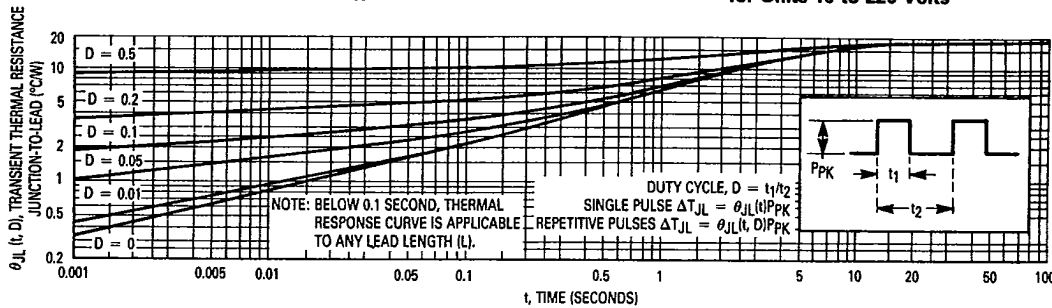
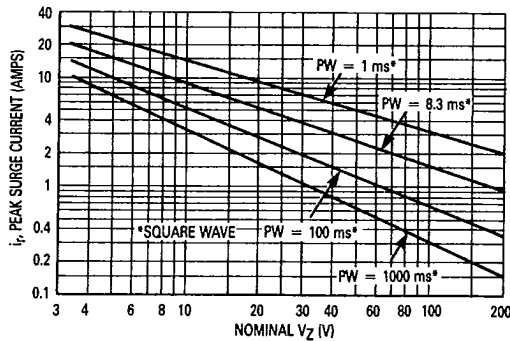
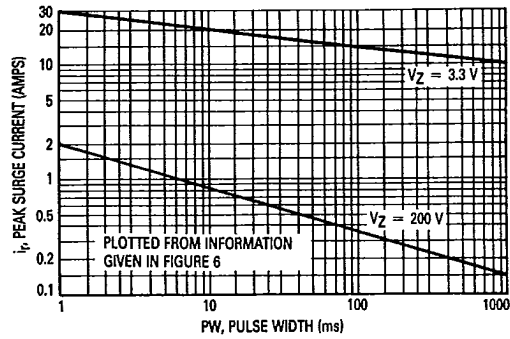

Figure 4. Typical Thermal Response L, Lead Length = 3.8 Inch
Figure 6. Maximum Non-Repetitive Surge Current versus Nominal Zener Voltage (See Note 3)
Figure 7. Peak Surge Current versus Pulse Width (See Note 3)
- (1) TOLERANCE AND VOLTAGE DESIGNATION — The JEDEC type numbers shown indicate a tolerance of ±10% with guaranteed limits on only VZ, IR, IF, and VF as shown in the electrical characteristics table. Units with guaranteed limits on all seven parameters are indicated by suffix "A" for ±10% tolerance and suffix "B" for ±5%, C for ±2% and D for ±1%.
- (2) ZENER VOLTAGE (VZ) AND IMPEDANCE (ZZT & ZZK) — Test conditions for Zener voltage and impedance are as follows: IZ is applied 40 ± 10 ms prior to reading. Mounting contacts are located 3/8" to 1/2" from the inside edge of mounting clips to the body of the diode. (TA = 25°C ± 2°C).
- (3) SURGE CURRENT (IS) — Surge current is specified as the maximum allowable peak, non-recurrent square-wave current with a pulse width, PW, of 8.3 ms. The data given in Figure 6 may be used to find the maximum surge current for a square wave of any pulse width between 1 ms and 1000 ms by plotting the applicable points on logarithmic paper. Examples of this, using the 3.3 V and 200 V zeners, are shown in Figure 7. Mounting contact located as specified in Note 3. (TA = 25°C ± 2°C).
- (4) VOLTAGE REGULATION (ΔVZ) — Test conditions for voltage regulation are as follows: VZ measurements are made at 10% and then at 50% of the IZ max value listed in the electrical characteristics table. The test currents are the same for the 5% and 10% tolerance devices. The test current time duration for each VZ measurement is 40 ± 10 ms. (TA = 25°C ± 2°C). Mounting contact located as specified in Note 2.
- (5) MAXIMUM REGULATOR CURRENT (IZM) — The maximum current shown is based on the maximum voltage of a 5% type unit, therefore, it applies only to the B-suffix device. The actual IZM for any device may not exceed the value of 5 watts divided by the actual VZ of the device. TL = 75°C at 38° maximum from the device body.
Data of Figure 4 should not be used to compute surge capability. Surge limitations are given in Figure 6. They are lower than would be expected by considering only junction temperature, as current crowding effects cause
temperatures to be extremely high in small spots resulting in device degradation should the limits of Figure 6 be exceeded.